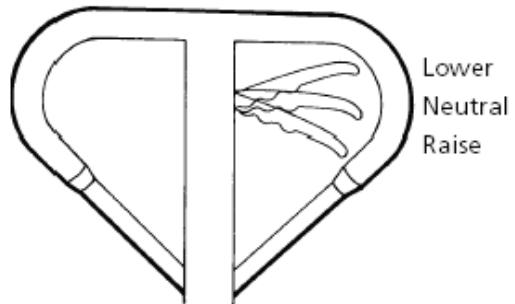
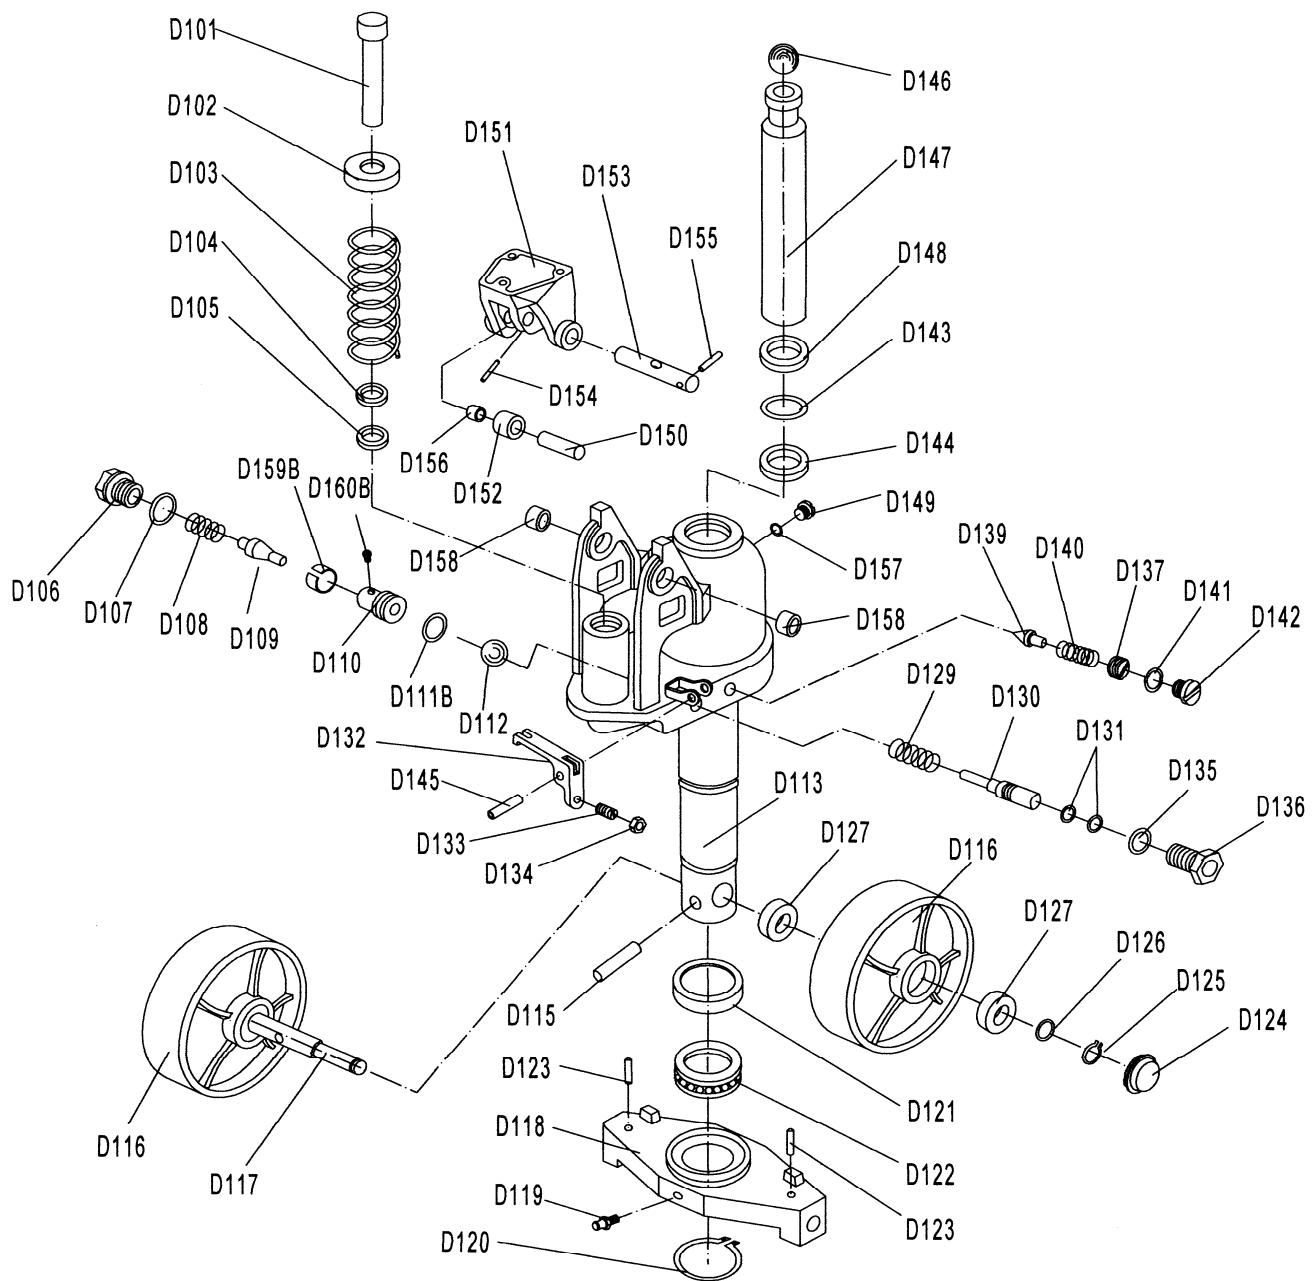

Figure 1 Control Lever
Figure 4 – Parts Illustration for Pump Assembly
The control lever, located on the right side of the handle, has three operating positions (See figure 1).
1. Push the control lever (fig 1) down to the "Raise" position. When the control lever is in the "Raise" position and the handle is "pumped" up and down the pallet truck forks should rise. If the forks do not rise, first loosen the lock nut (D134 fig 4) and then loosen the set screw (D133 fig 4) CCW 1/2 turn and retry the fork operation. Continue adjusting until satisfactory operation is obtained. Then tighten lock nut.
3. Squeeze the control lever (fig 1) to lower the pallet truck forks. When the forks are in a raised position and the control lever is squeezed the forks should slowly lower down. If the forks do not lower, first loosen the lock nut and then tighten the setscrew CW 1/2 turn and retry the fork operation. Continue adjusting until the forks lower when the control lever is squeezed.
The three position control lever is operated as follows (see Figure 1):